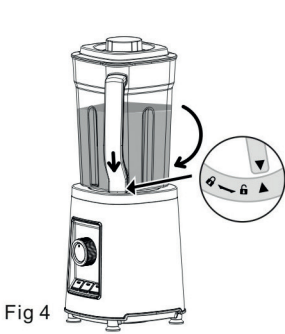

Fig 4
- Place the blender jug (4) on the motor unit (7) and turn the handle to the locked padlock position. Fig 4.